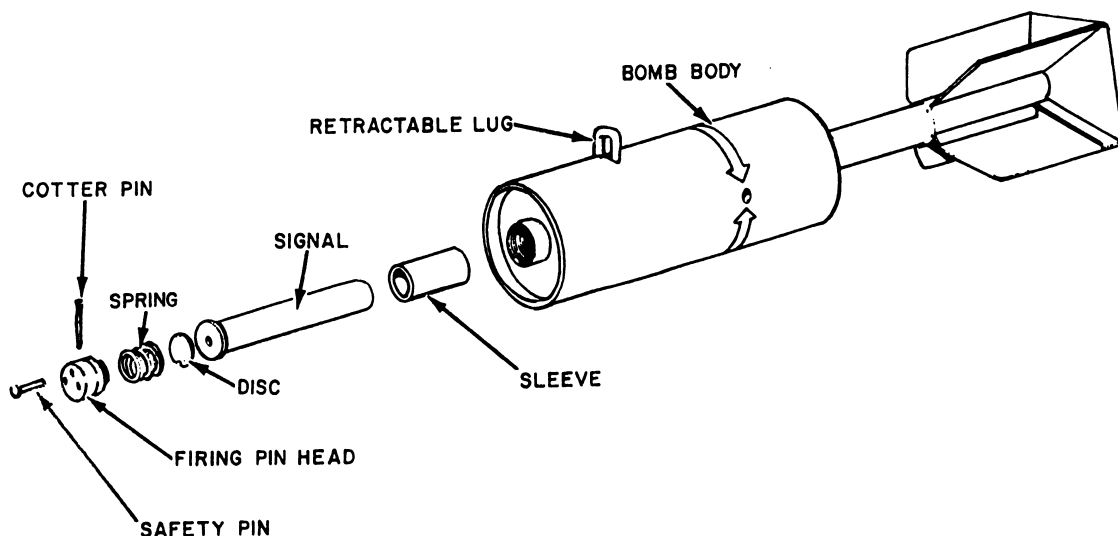

Figure 12-52.—Mk 106 and Mods practice bomb.
2. Remove the firing device and sleeve from the nose of the bomb and inspect it for rust or deformation. Refer to figure 12-52 for identification of the components.